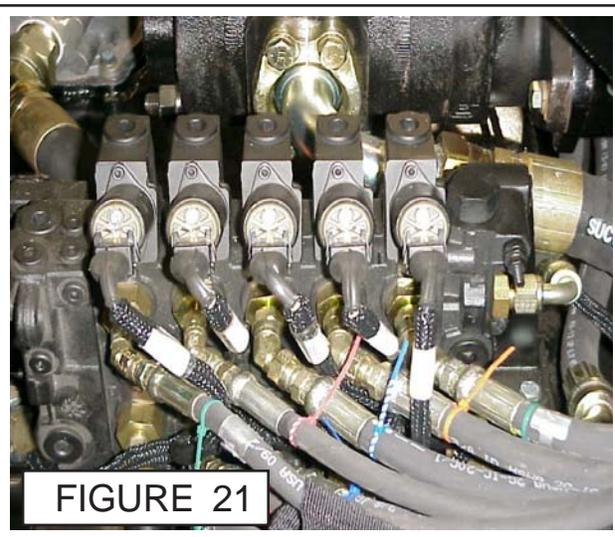

FIGURE 21
1. Wire Harness From Cab to Front. The wire harness runs out the bottom of the Cab on the right hand side. Run harness along under RH cab of Tractor to the control valve (See Figure 21). Note the wire harness runs bottom of cab and near the exhaust from the Tractor to the Stack Valve to the front of the tractor. Make certain to tie the Harness or Hoses to the Tractor for protection.